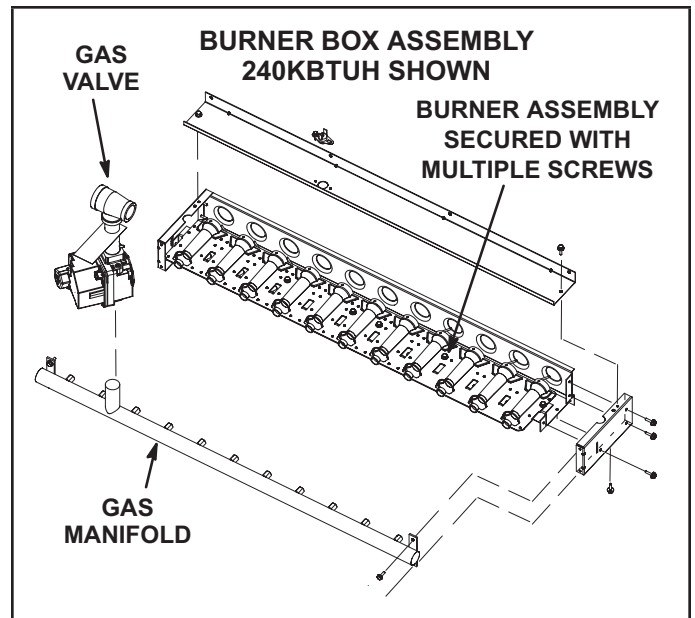

FIGURE 37
- 3 - Remove screws securing burner assembly to burner support and remove assembly. See FIGURE 37. Clean as necessary.